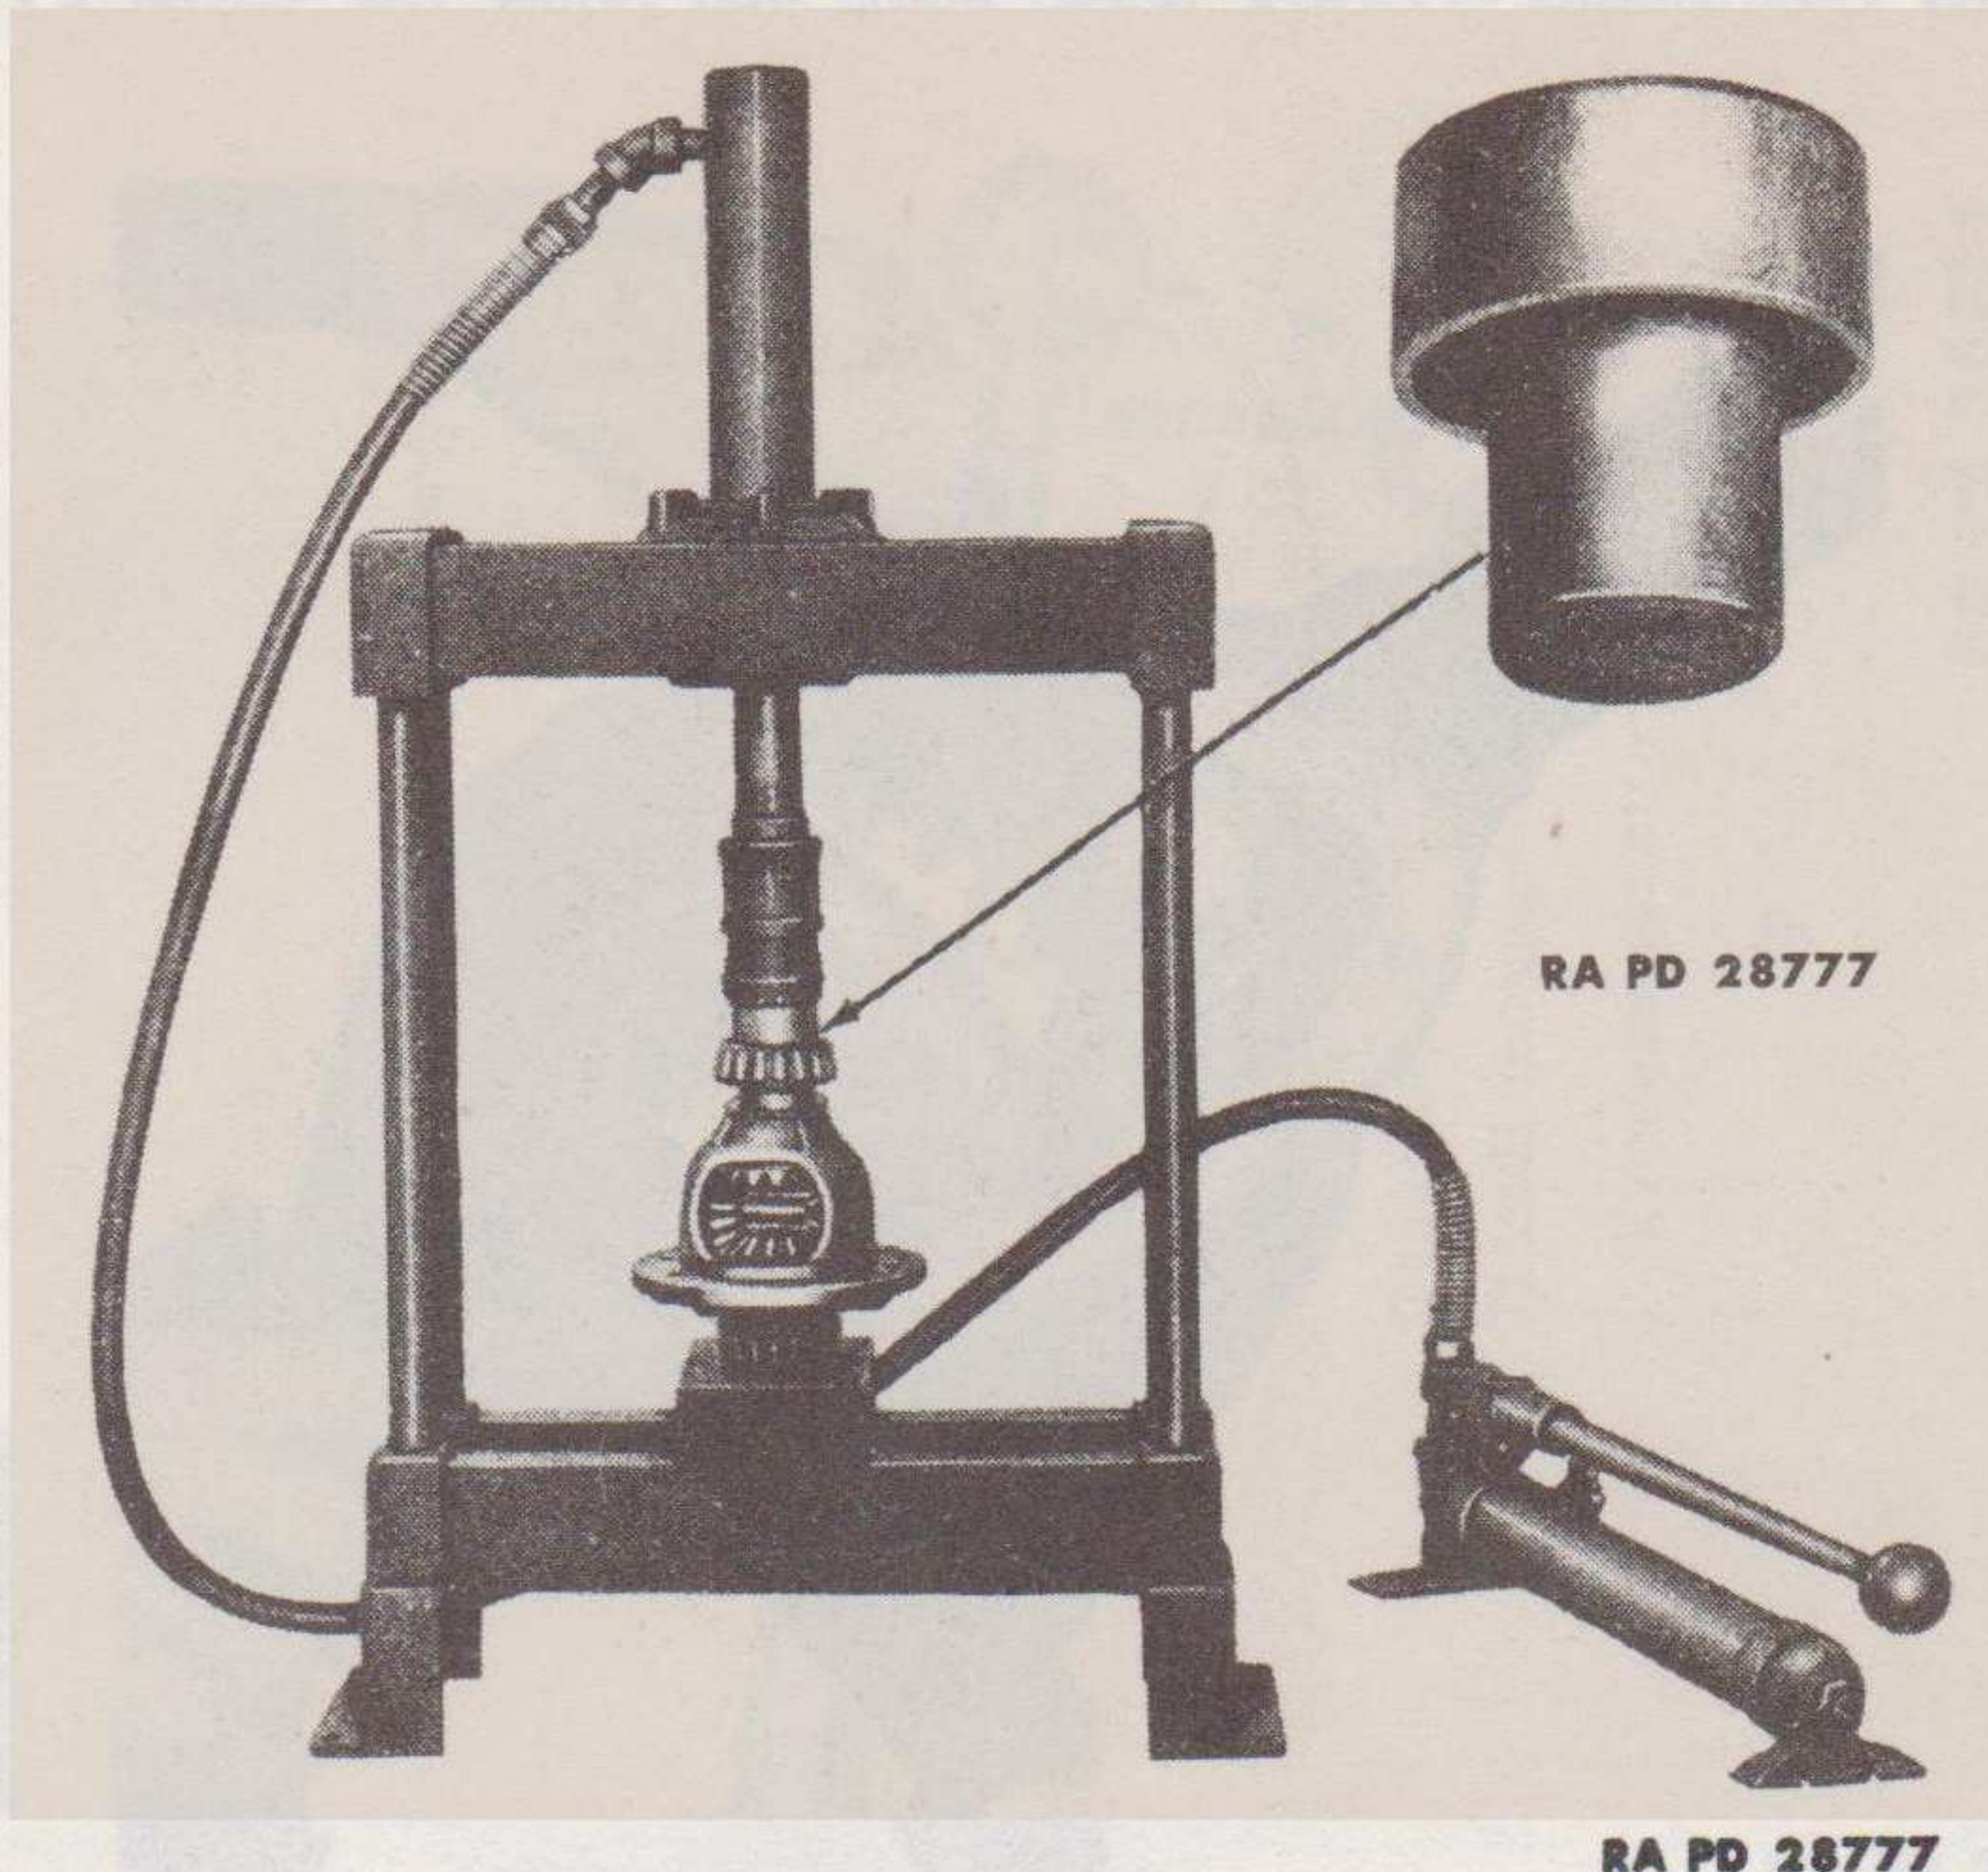

Figure 68 — Installing Differential Bearing, Using Special Replacer 41-R-2391-65
g. **Install Roller Bearings on Case (fig. 68).** If all the original parts have been used in the differential assembly, add the same thickness of shims as originally used and press the roller bearings on the case, then proceed with subparagraph h, below. If the original parts are not being used, or if the original shim thickness is not known, install the roller bearings on the case without the shims, and proceed with subparagraph i, below.